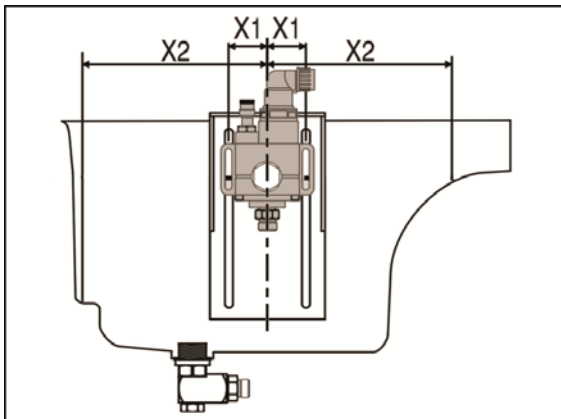

Figure 3.3 Locating the sump level sensor bracket
5. Determine the position of the sump level sensor. The correct position is exactly in the centre between the front and the rear of the sump (Figure 3.3) and as close as possible to the side of the sump.